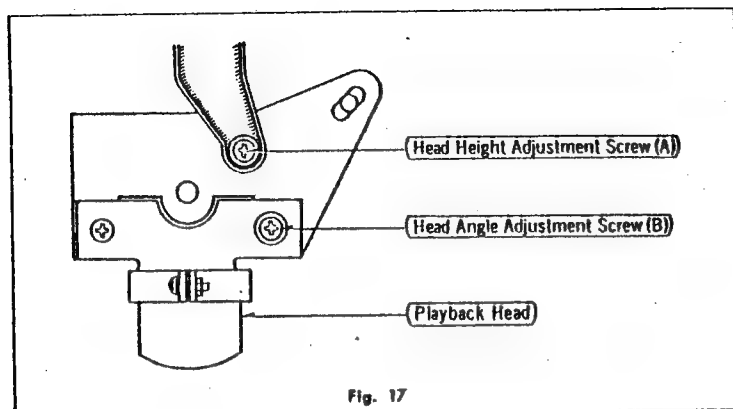
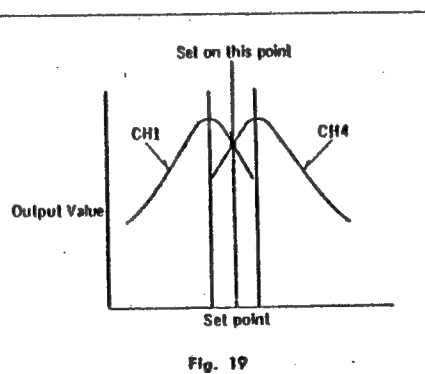

Fig. 17
Fig. 19
2. Make an adjustment with the unaided eye by using the head height adjust screw (A) shown in fig. 17 so
3. Using either an RCA321 test tape or recorded music, play the tape and adjust screw B in fig. 17 for a balanced maximum output (fig. 19)
2. Play the tape and adjust screw (fig. 17) for minimum sound on channel 1, or connect the equipment as shown in fig. 21.
3. Lock screws A and B in place, using glyptal or glue, fig. 17.